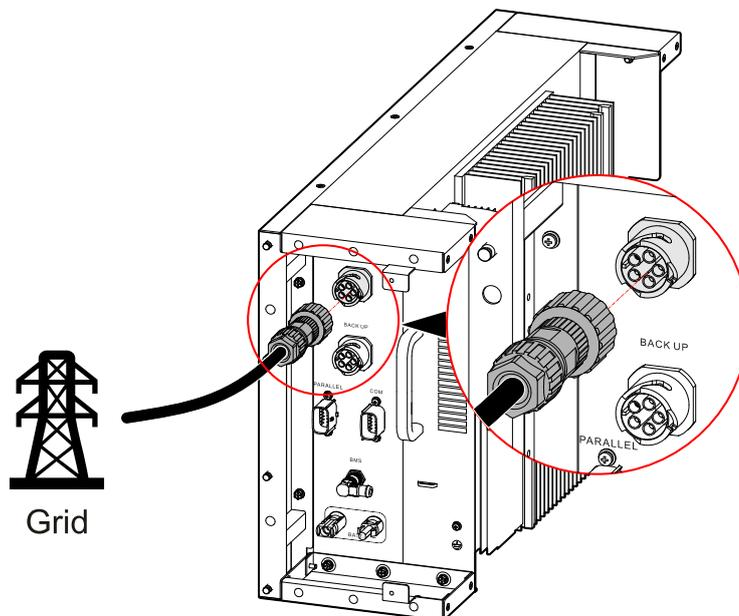

Figure3-40 Connect the grid
Step 3 Insert the AC connector to the GRID port, as shown in Figure3-40.